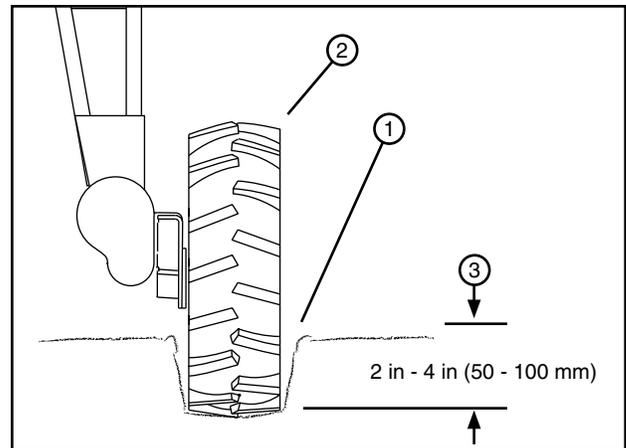

Figure 35-1 1. Wheel track
- » Regular drive units must not exceed 4 in (100 mm). See Figure 35-1.
- » Single span swing around drive unit must not exceed 2 in (50 mm). See Figure 35-1.
- » Do not allow wheel tracks at the cart. See Figure 35-1.